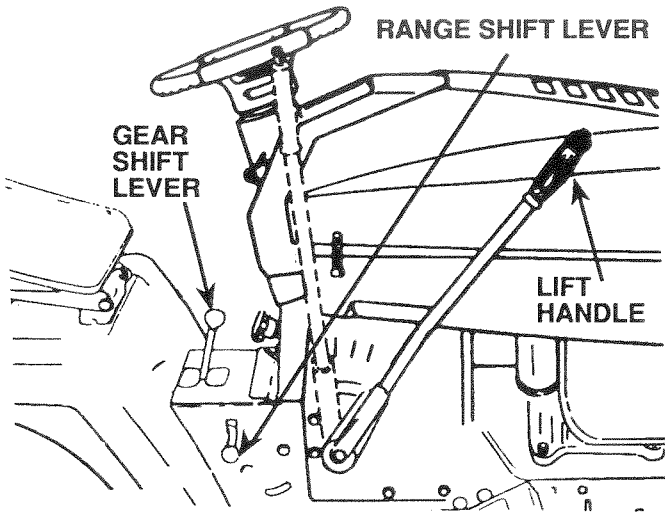

FIGURE 14
- b. Move Range Shift Lever to "LO" (low) position (Fig. 14).